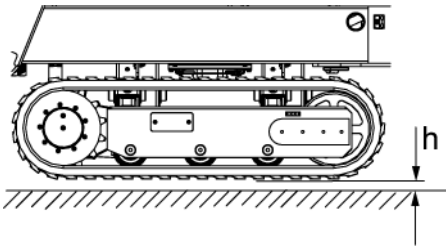

Fig. 139: Removing the load from the crawler chassis
3. → Raise the machine using the outriggers so that the crawler chassis is relieved of its load (Fig. 139/h = max. 20 mm) (↪ Chapter 6.8 'Putting machine in work position' on page 98).